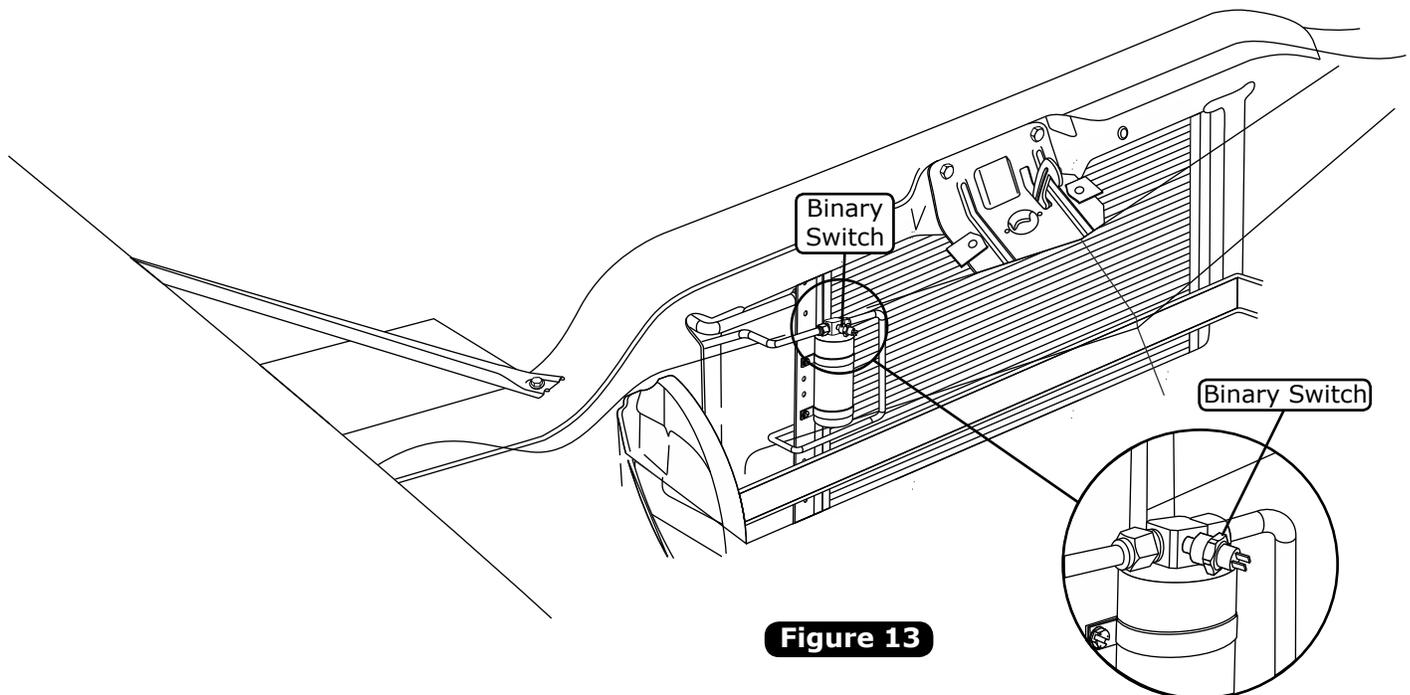

Figure 13
1. Install the binary switch onto the drier as shown in Figure 13, below.